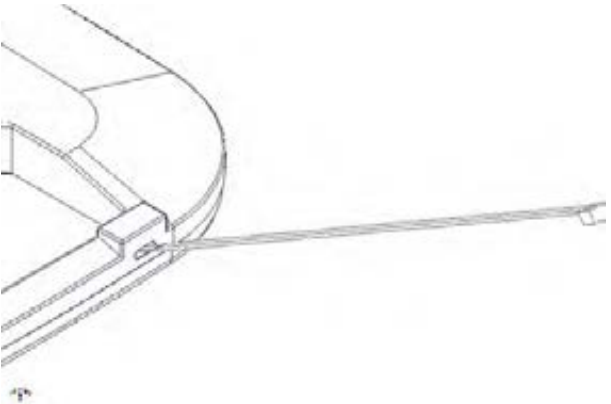

Figure 2 - Insert cable tie through Kensington lock slot
Step 3 - Optional safety tether: To attach the optional safety tether, insert the included cable tie into the Kensington lock slot at an angle toward the top of the access point. There is an opening that will allow the cable tie to pass through (reference *Figure 2*).